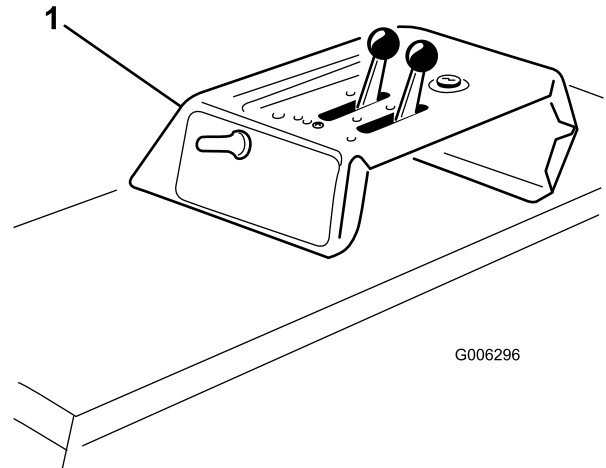

Figure 6
1. Remove the fasteners securing the controls, switches and buttons to the instrument panel (Figure 6).